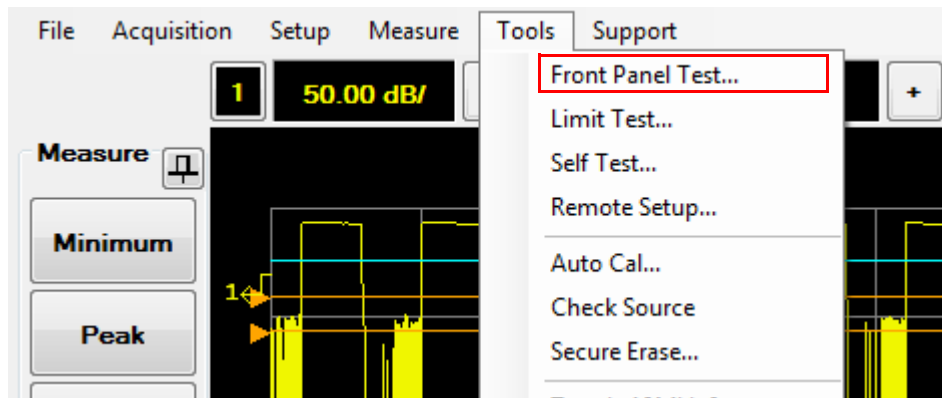

Figure 3-1 Front Panel test... selection in the Tools menu
- 1 Select **Tools > Front Panel Test...** on the toolbar as shown in Figure 3-1.